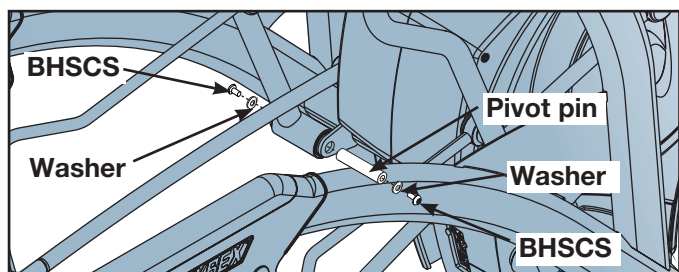

Figure 4
- D. Using two 7/32" Allen wrenches, remove the two BHSCS, washers and pivot pin securing the arm handle onto the frame. **NOTE:** You may need a rubber mallet and punch to remove the pivot pin. See Figure 4
- B. Insert pivot pin (removed in step 6D). See Figure 4. **NOTE:** You may need a rubber mallet to install the pivot pin.
- D. Using two 7/32" Allen wrenches, install the two BHSCS and washers (removed in Step 6D). See Figure 4.